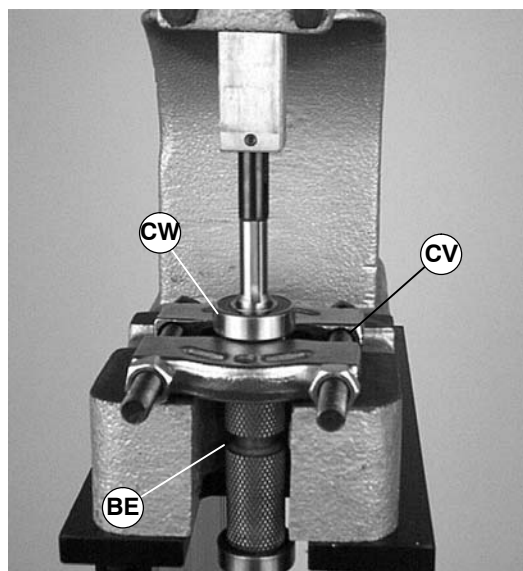

Figure 57
1. Position drive pulley (BE of Figure 57) in a standard bearing separator (CV) as shown.